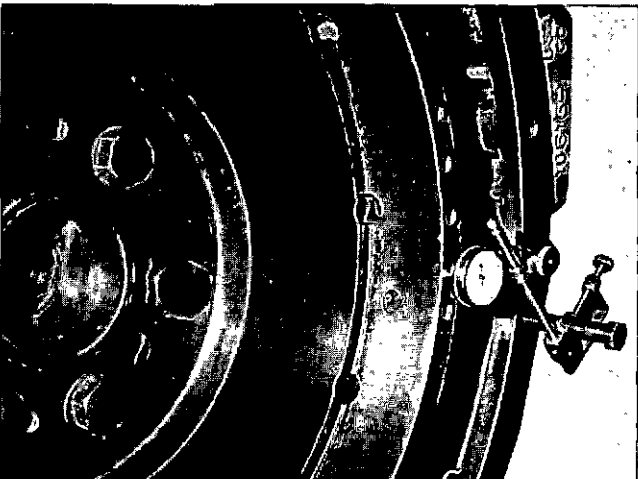

Fig. 14-1-92, V414178. Indicating flywheel face
1. Shift gauge to indicate face of flywheel. Fig. 14-1-92. Mark with chalk four spots equidistant on circumference of flywheel.